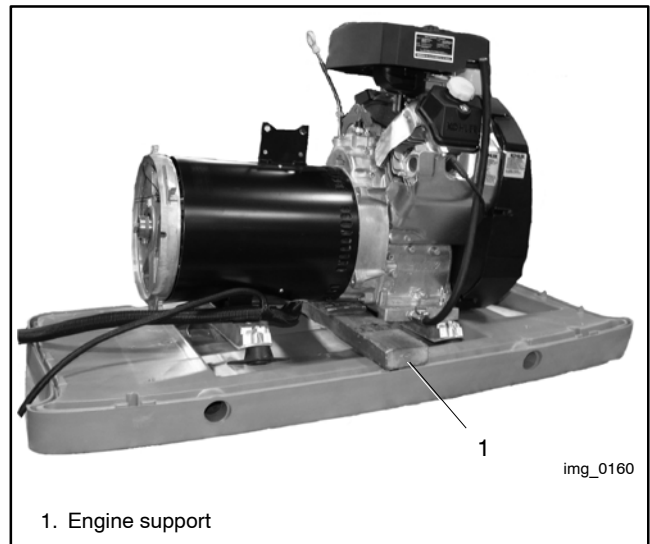

Figure 7-21 Wood Support for Engine (RESA shown)
20. Raise the alternator end of the generator set enough to place a wood support beneath the rear of the engine. The wood support must be long enough to span the opening in the base. See Figure 7-21.